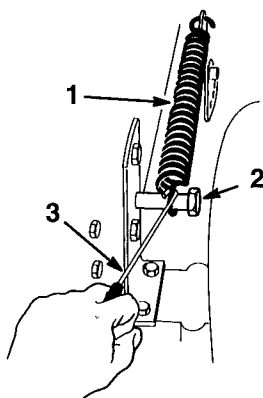

Figure 37
3. Remove the height-of-cut lift assist spring from the retaining bolt (Fig. 37), using the spring tool provided with the machine. The spring is between the frame and the right rear wheel.
12. Move the height-of-cut lever (deck lift) into the "D" notch. Hook lift assist spring onto retaining bolt for storage (Fig. 37).